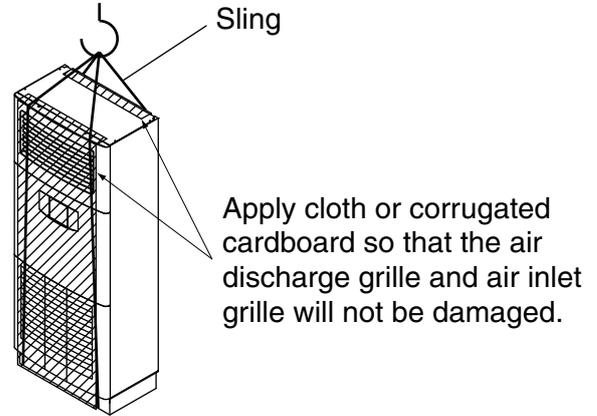

Fig. 1
- When hanging the unit for lifting, use a sling of soft material (made of cloth, nylon, etc.) as shown below. (Refer to Fig. 1)
(1) Horizontal hanging
(2) Vertical hanging